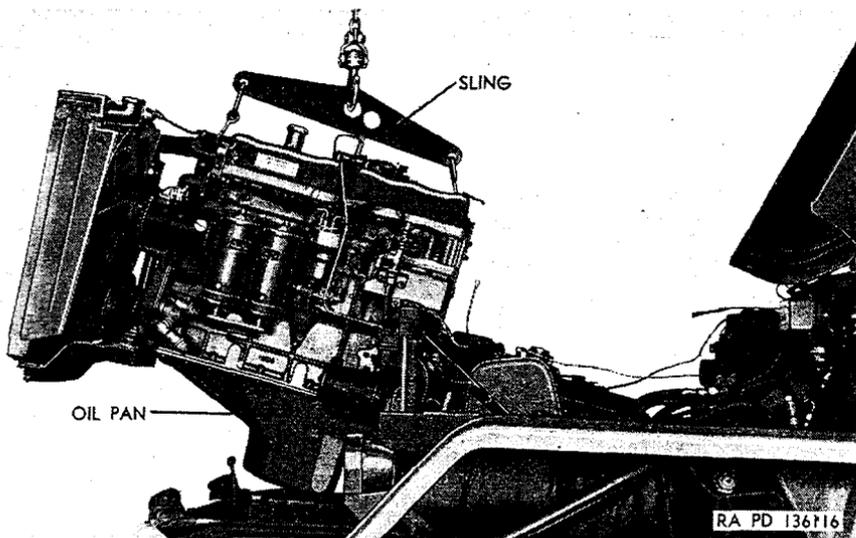

Figure 150. Lifting power plant from truck.
plant slowly, at the same time, moving it forward (fig. 150), until the power plant is free of the vehicle.
- (1) *Lift power plant into truck.* Lift power plant high enough to clear front of truck and move part way into engine compartment (fig. 150). Check to be sure that all lines and accessories are clear of power plant. Continue to lower power plant slowly, at the same time, moving it further into the engine compartment, until mounting bosses on left and right sides of flywheel housing are directly above, but not sup-